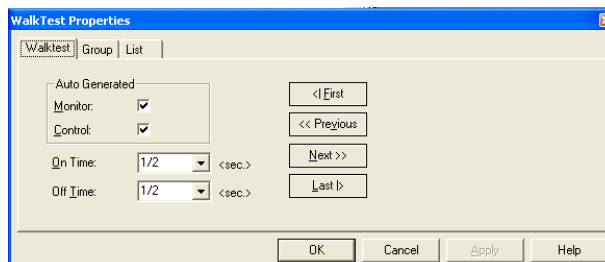

Figure 9-17. WalkTest Group Properties
- Double click on one of the WalkTest groups to view its properties window. (Alternatively, you can right click on the group and select Properties from the menu that appears.) A screen similar to the one shown in Figure 9-17 appears.